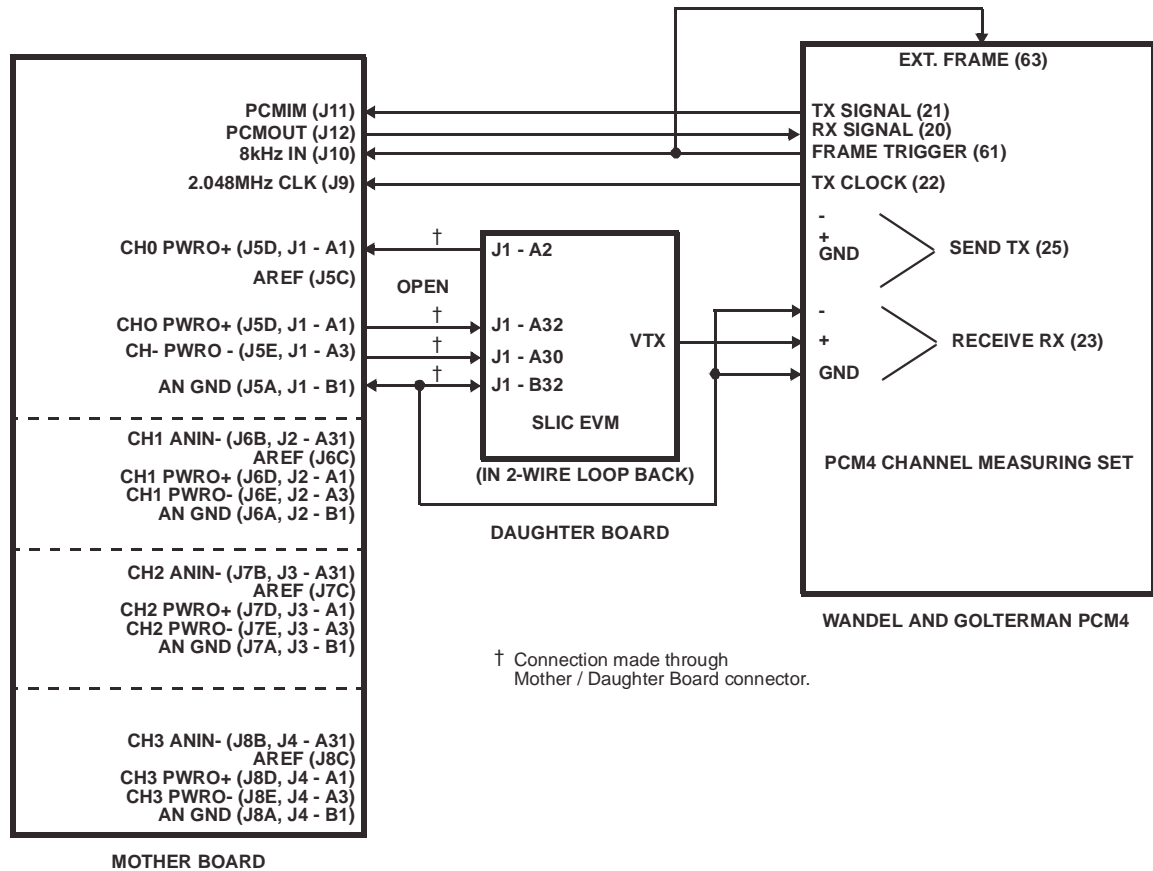

FIGURE 1. TCM38C17 CONNECTIONS TO PCM4 WITH HC55185 EVM CONNECTED
- Connect TCM38C17, HC55185 and PCM4 as shown in Figure 1.